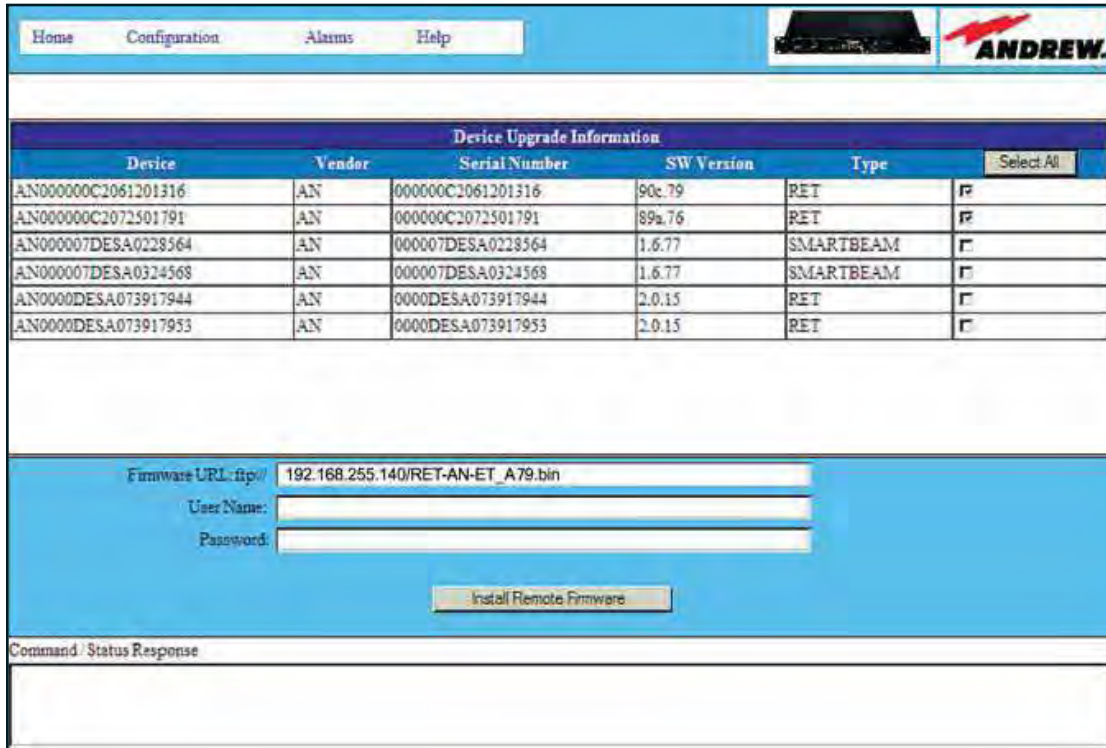

Figure C-8a. Manual Firmware Upload to Selected AISG devices (ATC200, ATC300 2.32 & earlier)
- Click on the check box(es) at the far right to select one or more devices for a software upload. As noted in Step 2, the Product Type should be the same for all selected devices, and should be the targeted Product Type for the device firmware file. Note that uploads are performed in succession to each selected device. If several devices are selected, the entire upload process can be time-consuming. (Figure C-8a).
- (For ATC200 and ATC300 version 2.32 and earlier) In the **Firmware URL:ftp//** field, type in the IP address of the PC that is running the FTP server (and holds the device firmware files), followed by a forward slash and the name of the file that is to be uploaded to the selected devices. If needed, enter a **User Name** and **Password** for the FTP server. Finally, click on **Install Remote Firmware** (Figure C-8a).